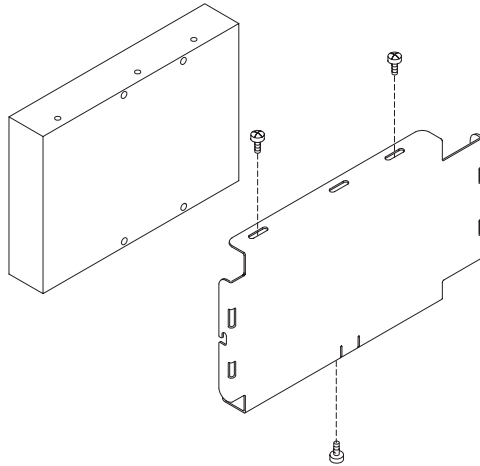

Figure 56. Removing the HDD from the adapter bracket
5. If you are replacing the HDD, remove the three screws holding the HDD to the mounting bracket, as shown in Figure 56.